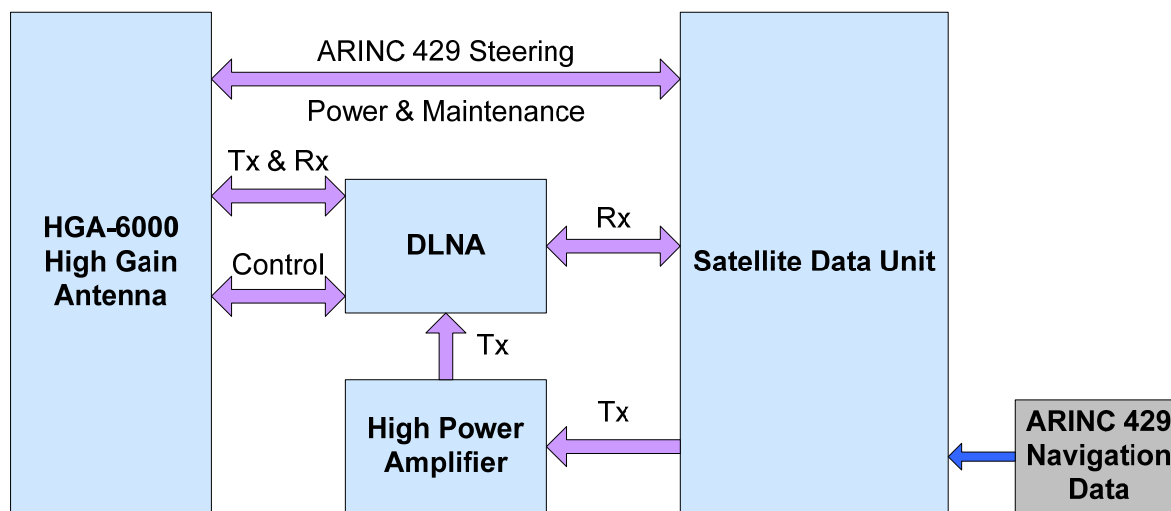

Figure 1 : Block diagram of HGA-6000 in a SATCOM system
- 2) The HGA-6000 High Gain Antenna is used together with the following subsystems interconnected as shown in Figure 1:
- The HGA-6000 is capable of interfacing directly to the ARINC 429 interface of an SDU (as defined in ARINC 741 [1]). In this configuration the antenna will accept the commands normally intended for a Beam Steering Unit (BSU). This will also allow the antenna to control the DLNA. This configuration is depicted in Figure 1.